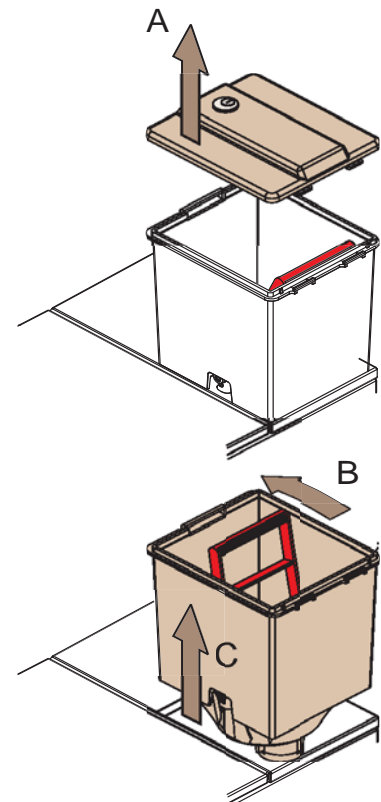

Figure 4-18
3. Open the bean hopper and unlock the container with the lever (see figure 4-18).